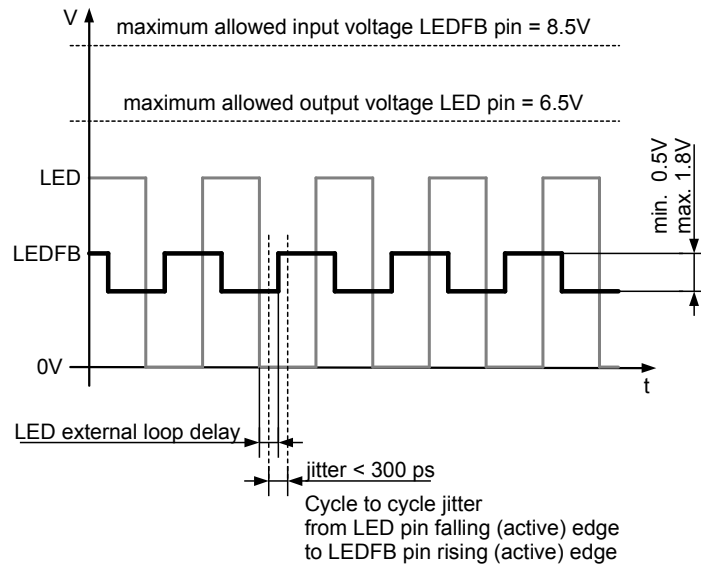

Figure 15: LED and LEDFB pin signal restrictions
- Refer to Figure 15 for input signal integrity and restrictions at the LEDFB pin.